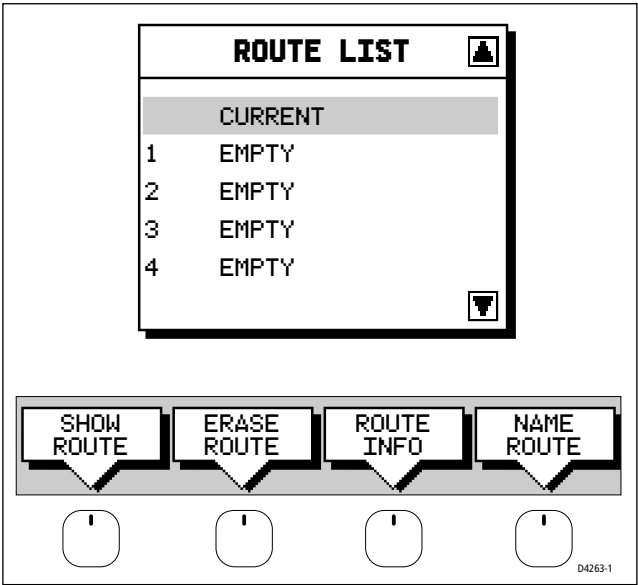

Figure 5-7: Route List Window
1. Press the **ROUTE** soft key, followed by **MORE**, then press **ROUTE LIST**. The route list is displayed as illustrated in *Figure 5-7*. The selection bar indicates the selected route.